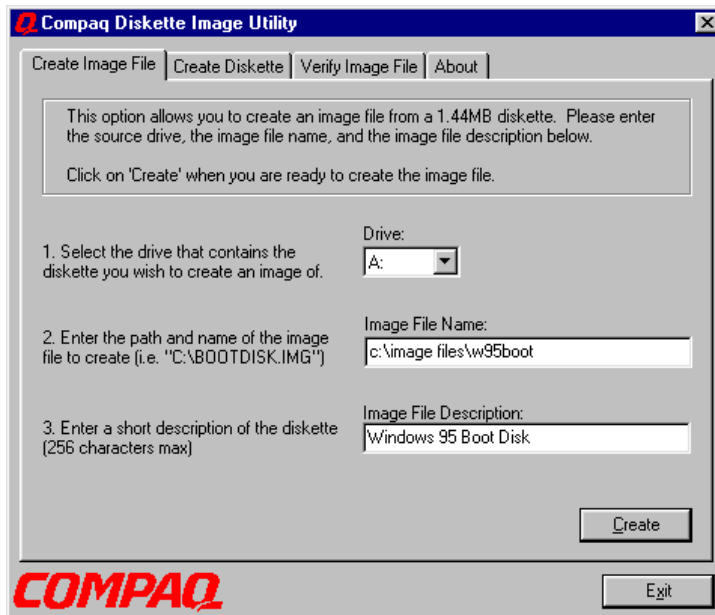

Figure 5-5. Create Image File screen
3. Provide the source drive, a path where you want to save the image along with the file name the image will have, and an image file description. Your screen should be similar to Figure 5-5.